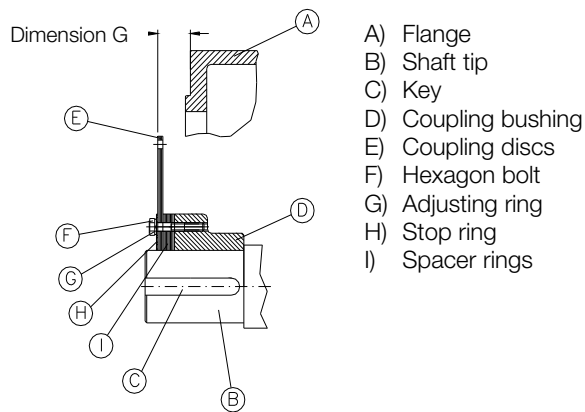

Figure 4.13: Procedure to change measure G
If it is necessary to change the measure "G", the position of the coupling discs (E) should be amended. To do this simply remove or add the **spacer rings (I)**, as shown in Figure 4.13.